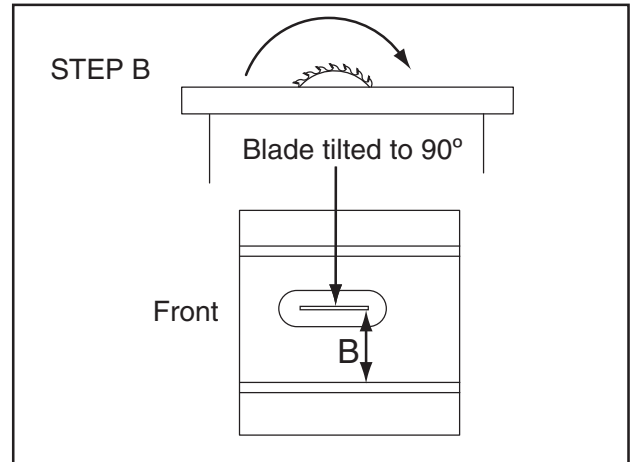

Figure 128. Measuring distance from miter slot to carbide tip on opposite side of table insert.
6. Compare the distance from the marked blade tip to the miter slot, as shown in **Figure 128**.